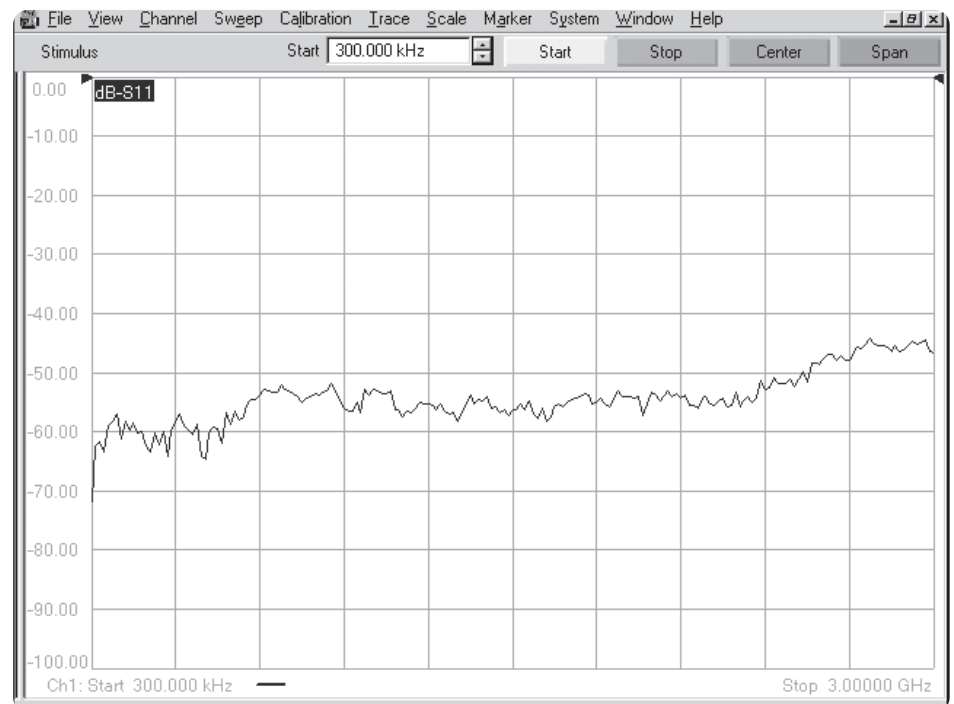

Figure 11. Measurement of load standard after calibration
2. Connect a load calibration standard to port 1. The magnitude of S11 should be less than the specified calibrated directivity of the analyzer (typically less than  $-30$  dB) (figure 11).